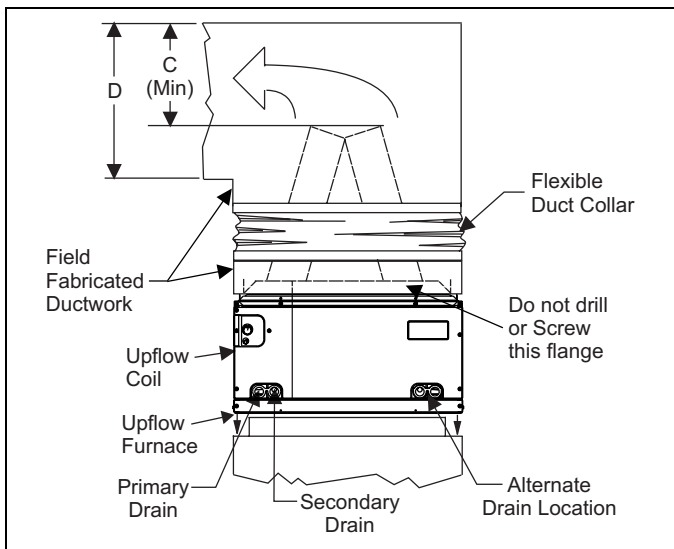

FIGURE 6: PC Series Upflow Coil Installation
1. Position the coil casing over the furnace opening as shown in Figure 6, "PC Series Upflow Coil Installation".
Do not drill any holes or drive any screws into the front duct flange on the coil in order to prevent damaging coil tubing. See Figure 6, "PC Series Upflow Coil Installation"
NOTE: Dimension "C" should be at least 2/3 of dimension "D". See Figure 6, "PC Series Upflow Coil Installation"